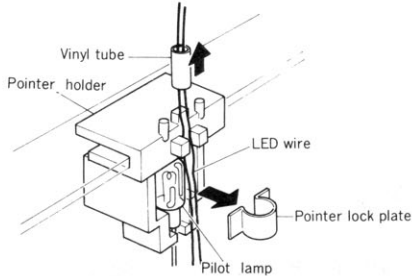

Fig. 19
- 1) Remove the dial lamp tube. (Refer to Fig. 19)
- 2) Remove the pointer lock plate. (Refer to Fig. 19)